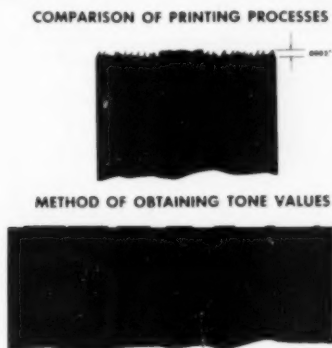

Figure 4. "Tone rendering of a contact screen process now available commercially." (10)
The most promising approach to the improvement of halftone reproduction is the replacement of the glass screen in photography with the dyed contact screens developed by Yule, Johnston and Murray (10) of the Kodak Research Laboratories. Contact screens are not new. The principles of their manufacture and use have been known for years (11). But previous contact screens all suffered from two main disadvantages. First, it was impossible to control contrast because each screen had specific contrast characteristics which made it useful only for the reproduction of originals with a specified contrast range. Second, the tone reproduction characteristics of the screens were no better than those of the glass screen. The new contact screens of Yule, Johnston and Murray have eliminated these disadvantages. Dyeing the dot elements has made it possible to control reproduction contrast by the use of color filters. But most important, tone reproduction has been improved. The incorporation of deliberate distortions in the density gradation of the dots of the contact screen compensates for the poor reproduction characteristics inherent in the halftone process. Tone rendering as reported for the dyed contact screen is illustrated in Figure 4.